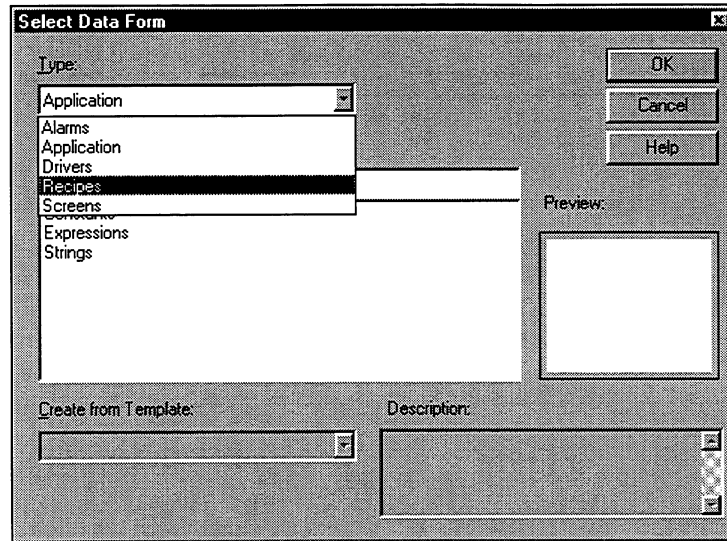

Figure 9-2. Select Data Form Dialog Box
1. Select the Data Editor command on the Tools menu or the Data Editor button. The Select Data Form dialog box opens, as shown in Figure 9-2.